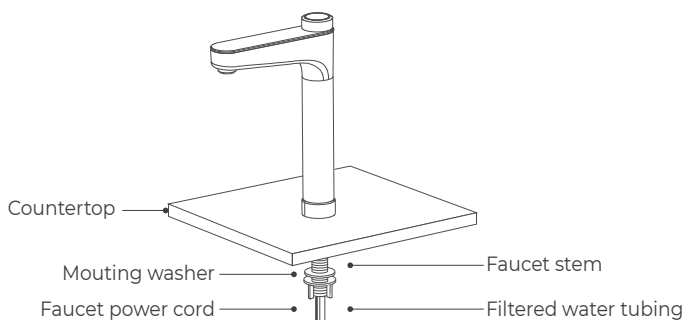

Figure 7
- a. Insert the faucet stem, power cord and filtered water tubing into the hole on countertop (**Figure 7**).